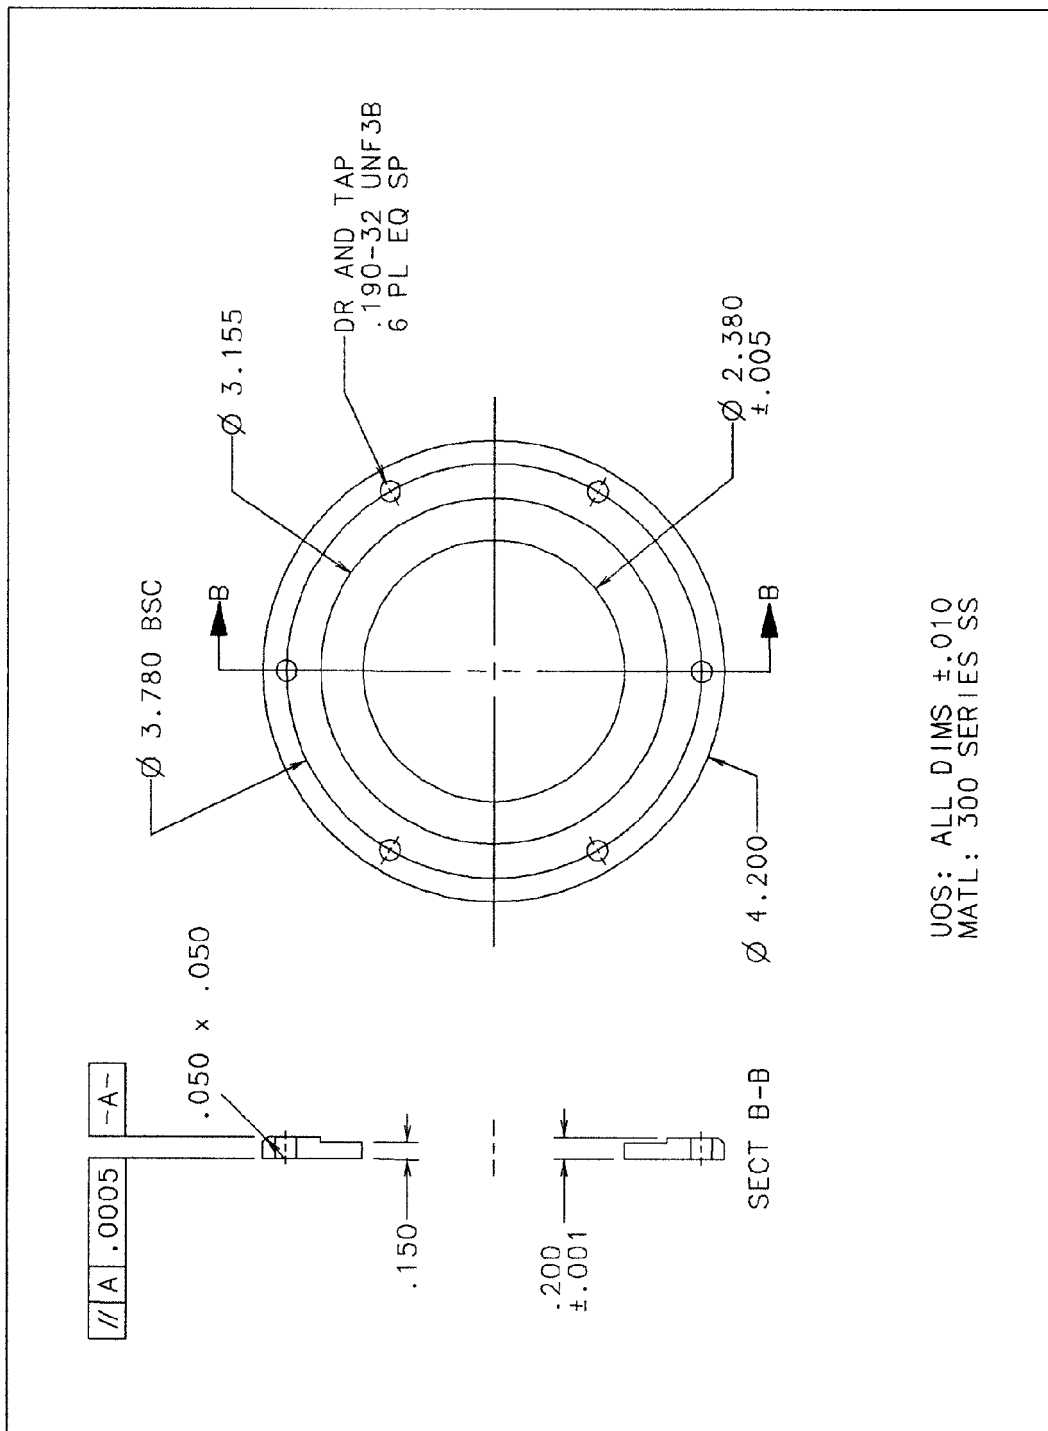

Figure 8. Clutch Inspection Fixture 1 (PN 63001010)
- (j) Install clutch inspection Fixture 1, PN 63001010, shown in **Figure 8** on ring gear carrier and secure with bolts PN 69274-253. This will hold the assembly together and the wave springs provide the force to hold the parts in directions F and G.
NOTE: You can locally manufacture the tool shown in **Figure 8**.